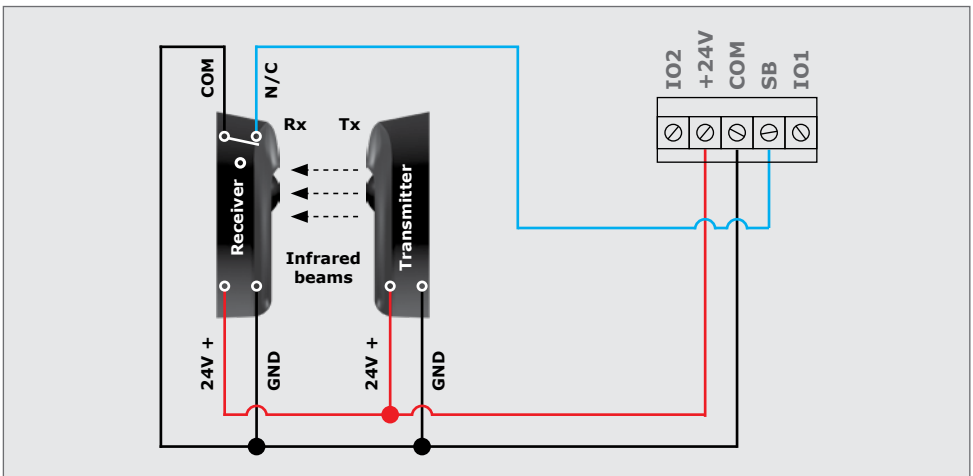

FIGURE 84. WIRING I5 SAFETY BEAMS TO THE SDO4 SMART (FOUR-WIRE)
- The trigger/TRG (green wire) in Figures 84, 85 and 86 can be either wired into IO1 or IO2, depending on the sites individual needs